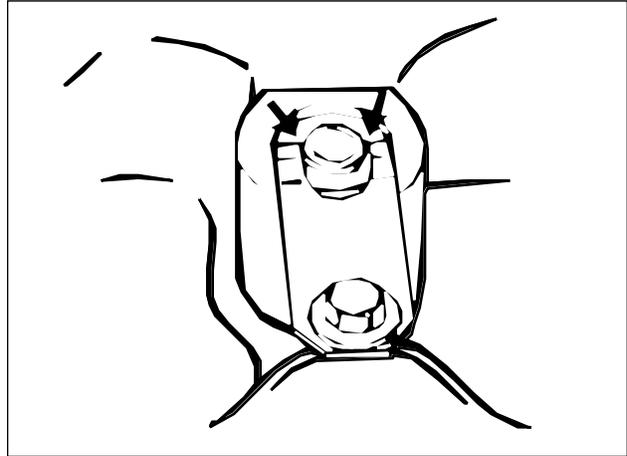

FIG. 22
4. Reassemble in reverse order. When tightening the hex-head capscrew, make certain the two spring tabs do not interfere with the sides of the raised center portion of the master piston (see Fig. 22). Torque the capscrew to 8 lb.-ft. (11 N•m).